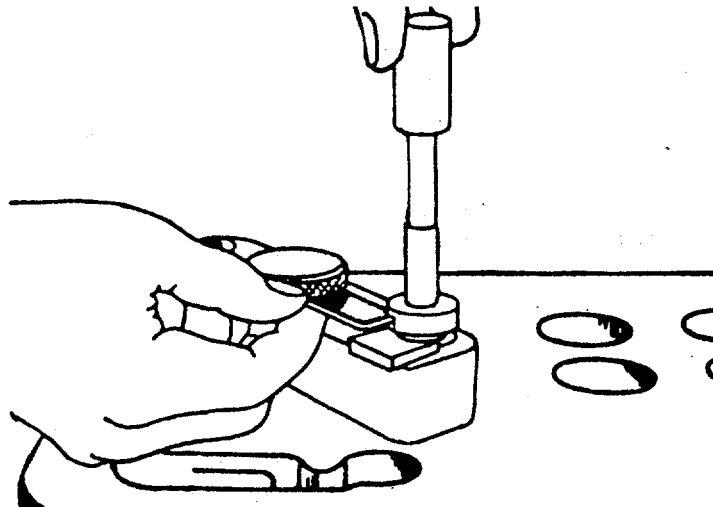

FIGURE 4-13. Adjusting Counterbore Cutter.
- 5 Slide the stop collar down against the gauge block (Figure 4-13). Tighten the setscrew in the stop collar.